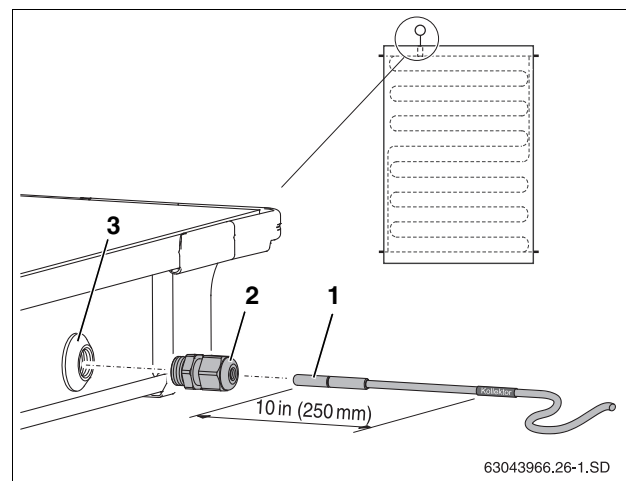

Fig. 54 Inserting the collector sensor into the collector
For a continuously troublefree reading of the absorber temperature, the collector sensor (Fig. 54, [1]) must be completely inserted into the sensor well as far as it will go (10 in (250 mm)).
- ▶ Using the collector sensor or screwdriver, puncture the membrane of the sensor well (Fig. 54, [3]).
- ▶ Screw strain relief (Fig. 54, [2]) into sensor bushing.
- ▶ Tighten the strain relief (Fig. 54, [2]), to secure the sensor in place.
If the membrane (Fig. 54, [3]) on the wrong collector was accidentally punctured, it can be resealed using the plug from the connection kit. First remove the nut in the sensor well using the strain relief (Fig. 54, [2]).